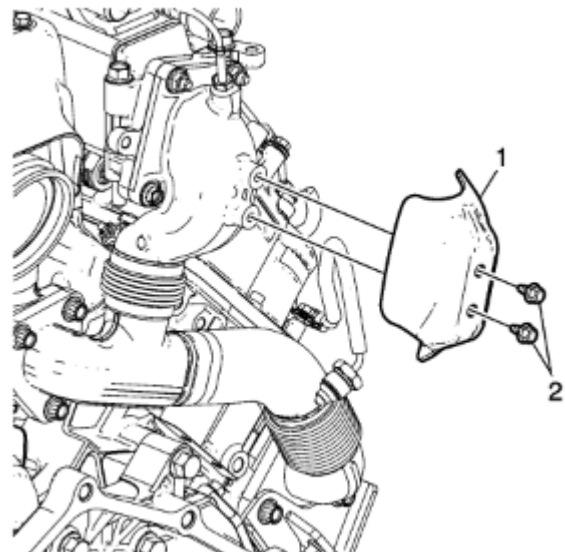

Fig. 128: Exhaust pipe heat shield installation
- d. Install the exhaust pipe heat shield as shown in figure 128. Torque the bolts to 53 in-lb.